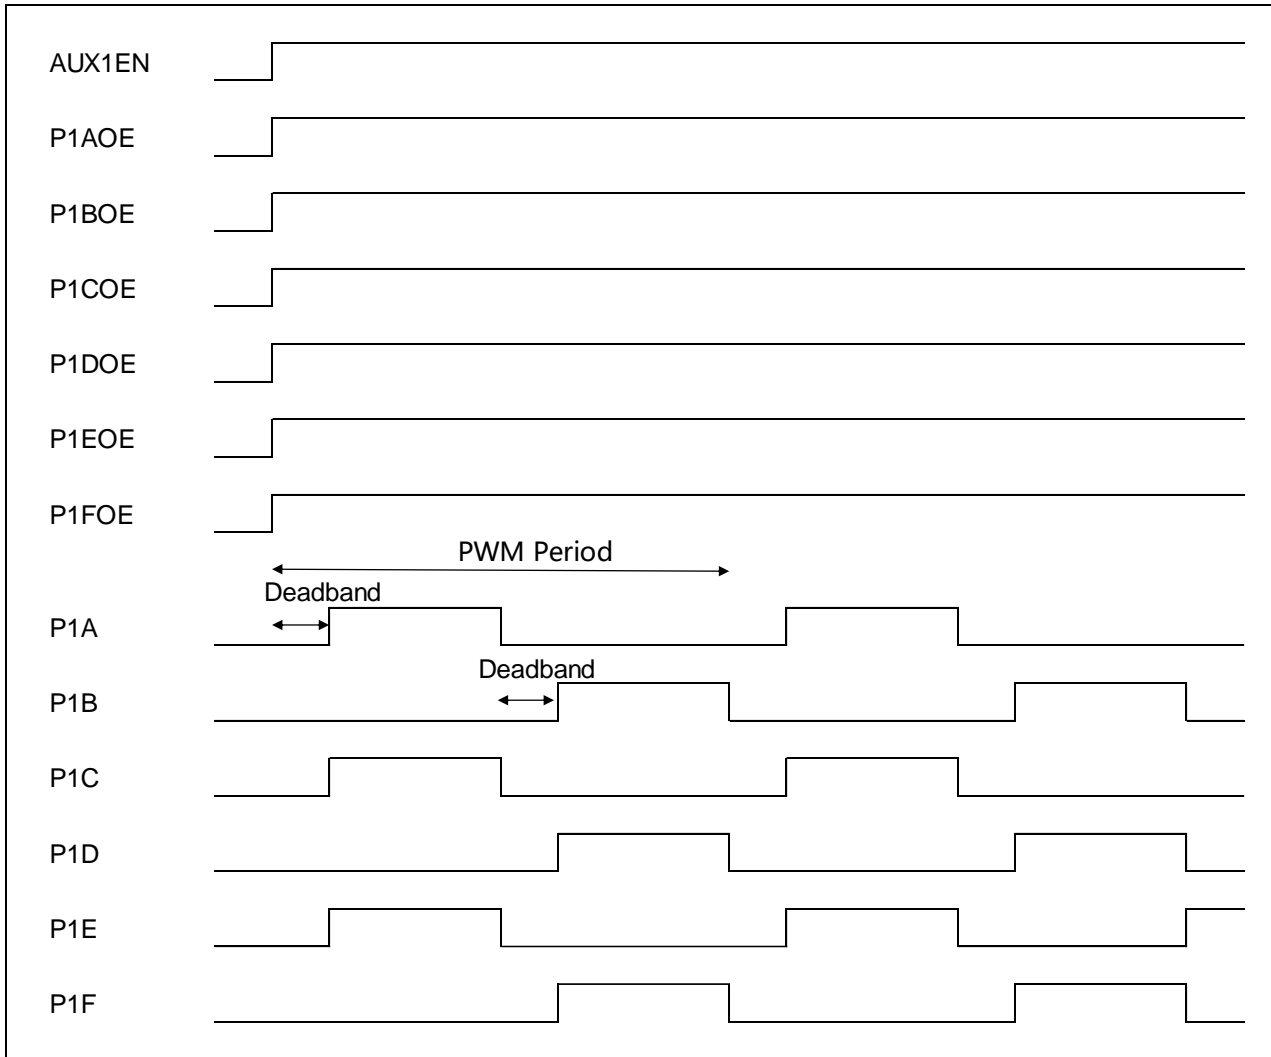

Figure 10-16 3 pairs of PWM Output (Auxiliary Function)
1. P1A and P1B are first pair of complmentary half-bridge PWM output with deadband control, the other 2 pairs P1C and P1D, P1E and P1F have the same wave with the first pair, see Figure 10-16;